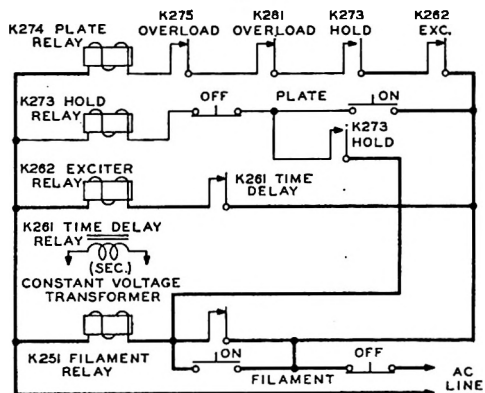

Figure 4-2 Power Control Circuit (Filament ON Button Pressed)
4.2.1. On the upper front door of the transmitter are four push buttons and four pilot lights labeled FIL. ON-OFF, and PLATE ON-OFF. These buttons operate the relays as shown in figure 4-2 to turn the power circuits off and on automatically.
Reference to figure 4-2 will show that it is possible to turn the complete transmitter on by pushing the PLATE ON button as follows: